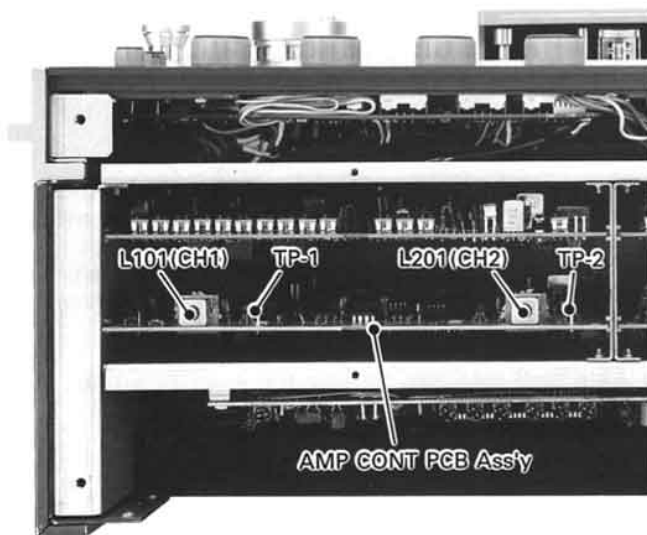

Figure 6-4. Test Points on AMP CONT PCB
4. (For the gapless punch-in models only) Connect the DC voltmeter between TP-1 (CH 1)/TP-2 (CH 2) on the AMP CONT PCB (Figure 6-4) and TP-2 on the R/P AMP PCB. Then, adjust L101 (CH 1)/L201 (CH 2) for minimum reading on the voltmeter.